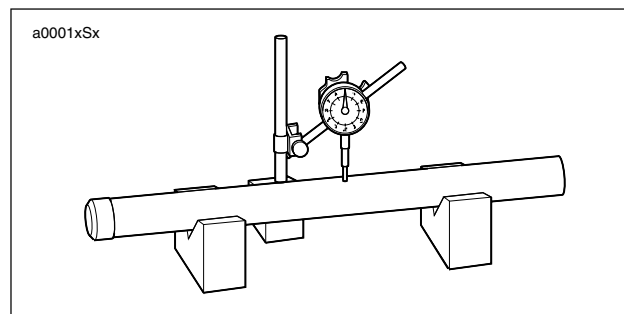

Figure 2-69. Pipe Runout
- See Figure 2-69. Measure slide pipe runout. Replace pipe if runout exceeds the service wear limit of 0.008 in. (0.2 mm).